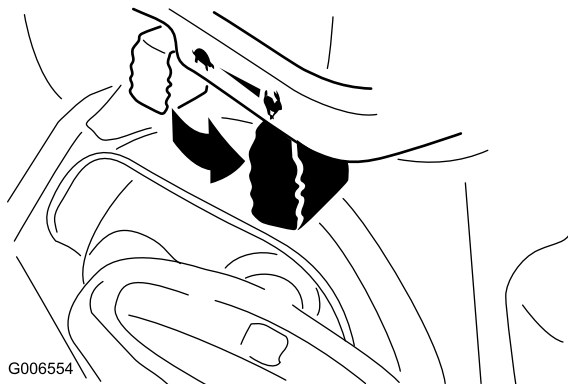

Figure 23
6. Move the throttle to the Fast position (Figure 23).